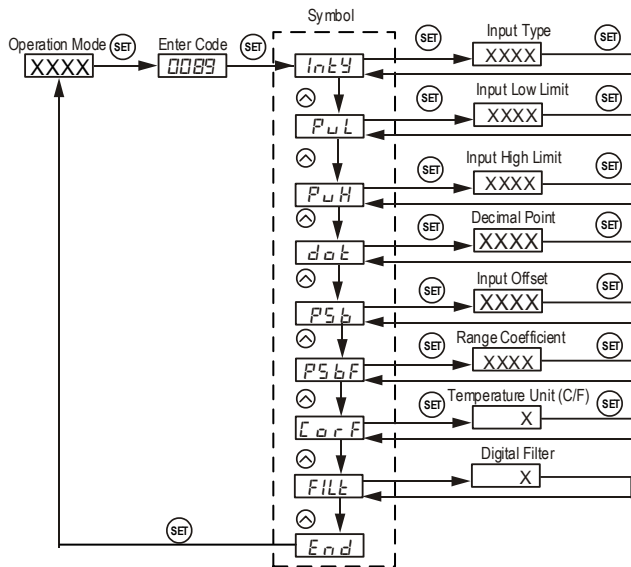

Figure 4. Basic Parameter Setting Flow Chart.
D.1.B) How to change basic parameters (see Figure 4)
The procedure to change alarm parameters is similar to the procedure for basic parameter setting shown in Figure 4 except the access code is 0001 instead of 0089.
The procedure to change the peak value settings is similar to the procedure for changing basic parameters in Figure 4 except access code is 1037 instead of 0089.